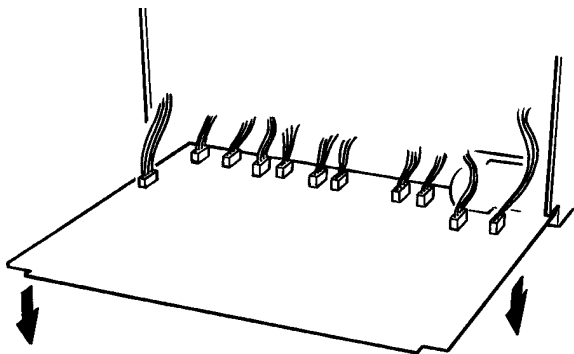

Figure 6a Connector removal (continuous trace recorders)
6. Turn the recorder the right way up again and remove all remaining connectors from the control board as shown in figures 6a/6b.